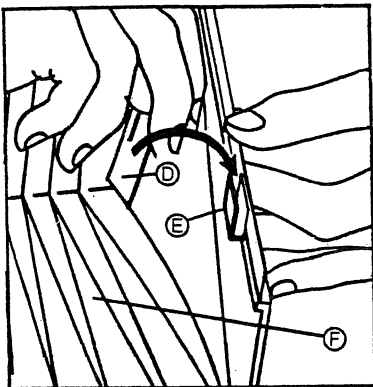

FIGURE 4
6. Place slots in one cardboard flap (D), Figure 4, over the plastic hooks (E) starting at far end of the media housing.